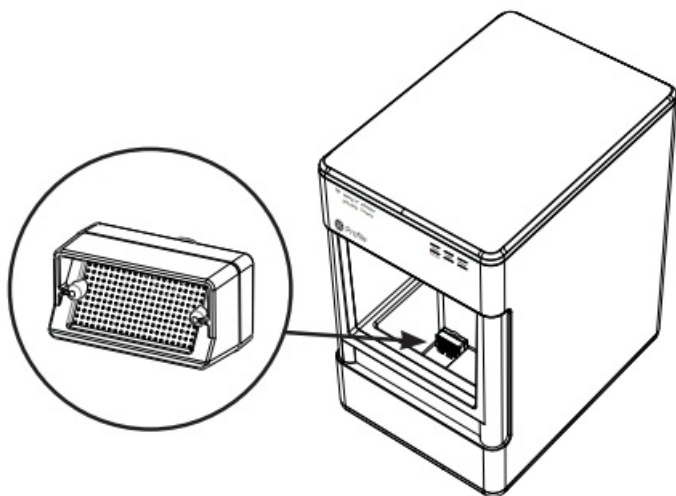

Figure 1
2. Remove water filter (if present), and replace with the reservoir's screened intake cap. See **Figure 1**.